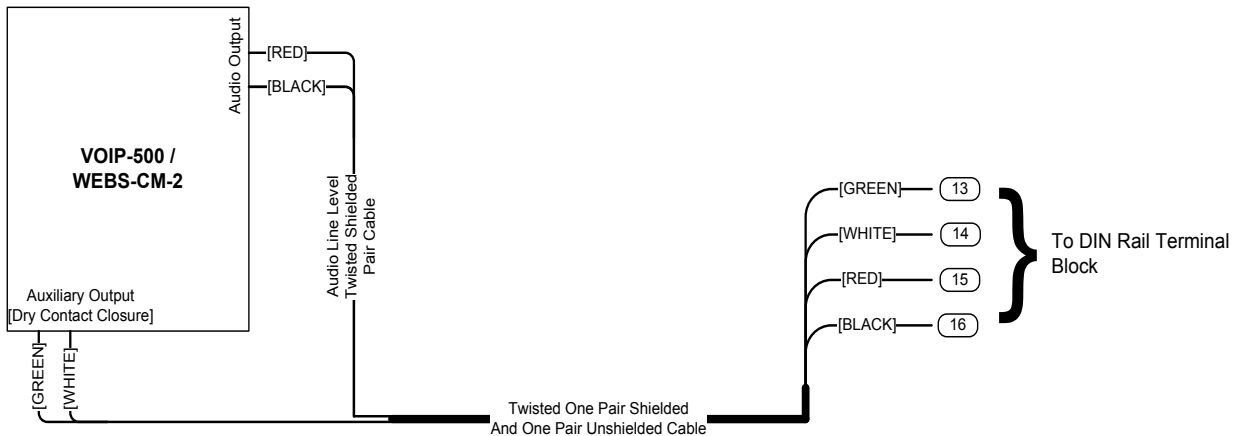

Figure 6. VOIP-500 / WEBS-CM-2 and DIN Rail Terminal Block Connectivity Layout
- When using **WEBS-CM-2** or **VOIP-500 Series** Emergency Phone make connections to the DIN Rail Terminal Block as shown in **Figure 6**.